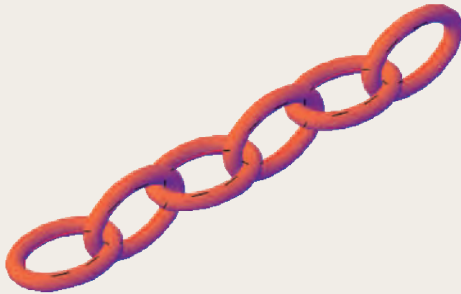

Fig. 13.15 Exercise 3
- Each link of the chain shown in Fig. 13.15 has been constructed using the tool **Extrude** and extruding a small circle along an elliptical path. Copies of the link were then made, half of which were rotated in a **Right** view and then